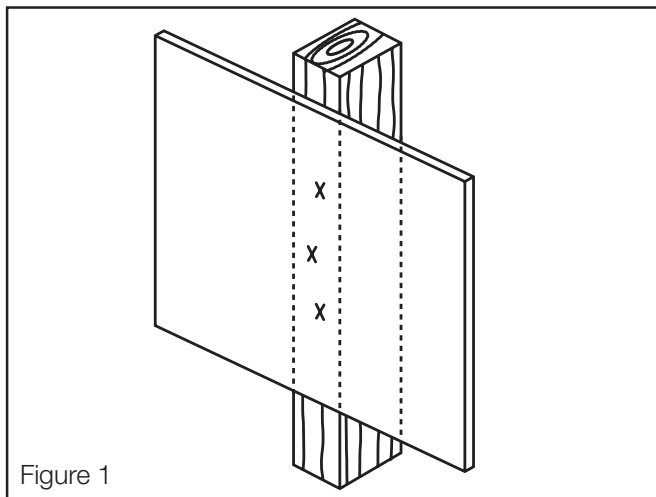

Figure 1
2. Mark 3 fixing holes over stud centres using the Wall Plate as guide (see Figure 1). Ensure Wall Plate is straight and level using a spirit level.